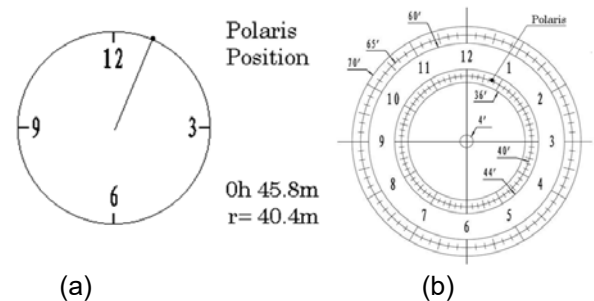

Figure 14
- e. Use Hand Controller (MENU => “Alignment” => “Position of Polaris/SigmaOct”) to display the Polaris Position on the LCD screen, as indicated in Figure 14 (a). For example, June 22, 2014, 20:19:42 in Boston, US (alt N42°30’32” and long W71°08’50”), UTC-300 minutes, the Polaris Position is 0h45.8m and 40.4m.
- f. Use the Azimuth and Latitude Adj. Knobs to adjust the mount in both directions and put the Polaris in the location on the Polar Scope Dial (same as indicated on the HC LCD), as shown in Figure 14 (b).